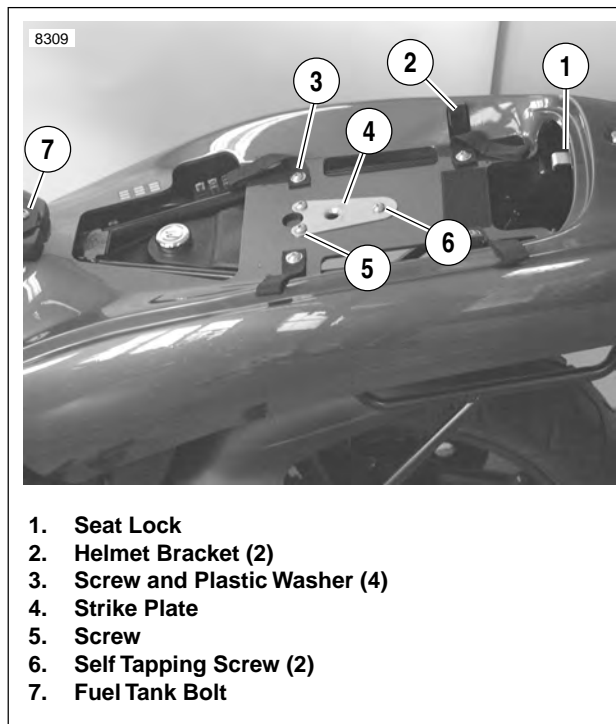

Figure 2-105. Tail Section Hardware
- a. Place ignition key in saddlebag lock. Turn key 1/4 turn.
2. See Figure 2-105. Remove seat.
- a. Place ignition key in seat lock (1). Turn key 1/4 turn.
3. Remove fuel tank bolt (7).
3. See Figure 2-105. Loosely install strike plate (4) using three screws. Both self tapping screws (6) fit in forward holes of strike plate.
- a. Loosely install two short screws with plastic washers (4) in the forward mounting holes.
- b. Place a helmet bracket (2) over a long screw (3). Place plastic washer under helmet bracket. Loosely install as an assembly in the rear mounting holes.